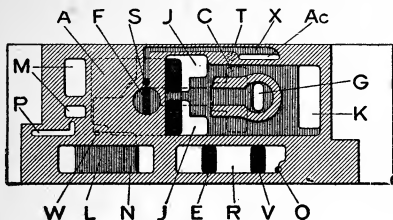

Fig. 18.—Lap Position.
**Lap Position** (Fig. 18). The brake valve handle should be placed in this position when a hose bursts, the train parts or a conductor's valve is opened to save the main reservoir air. All ports are closed in this position excepting port O, which is open to the atmosphere through port V and the exhaust passage in release, running and lap positions.